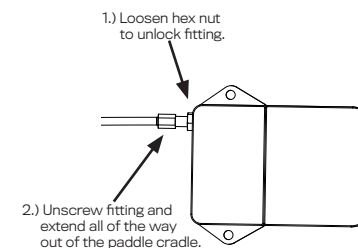

FIGURE 3
3. On the back side of the adjustment paddle there will be a small hex fastener with hex nut. This is to lock the fastener in place so that it can be screwed in or out to adjust the tension of the cable. (Figure 3)